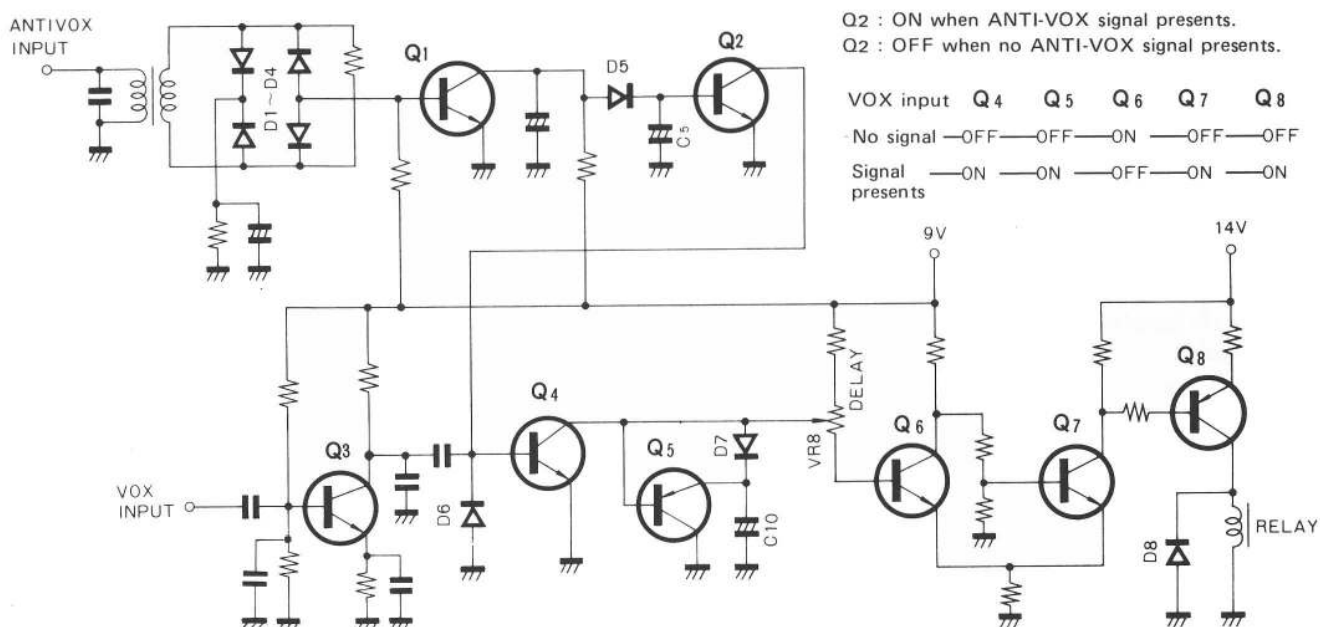

Fig. 7. VOX and ANTI-VOX Circuit
12. VOX AMPLIFIER AND ANTI-VOX CIRCUIT (X54-0001-00) (See Fig. 7)